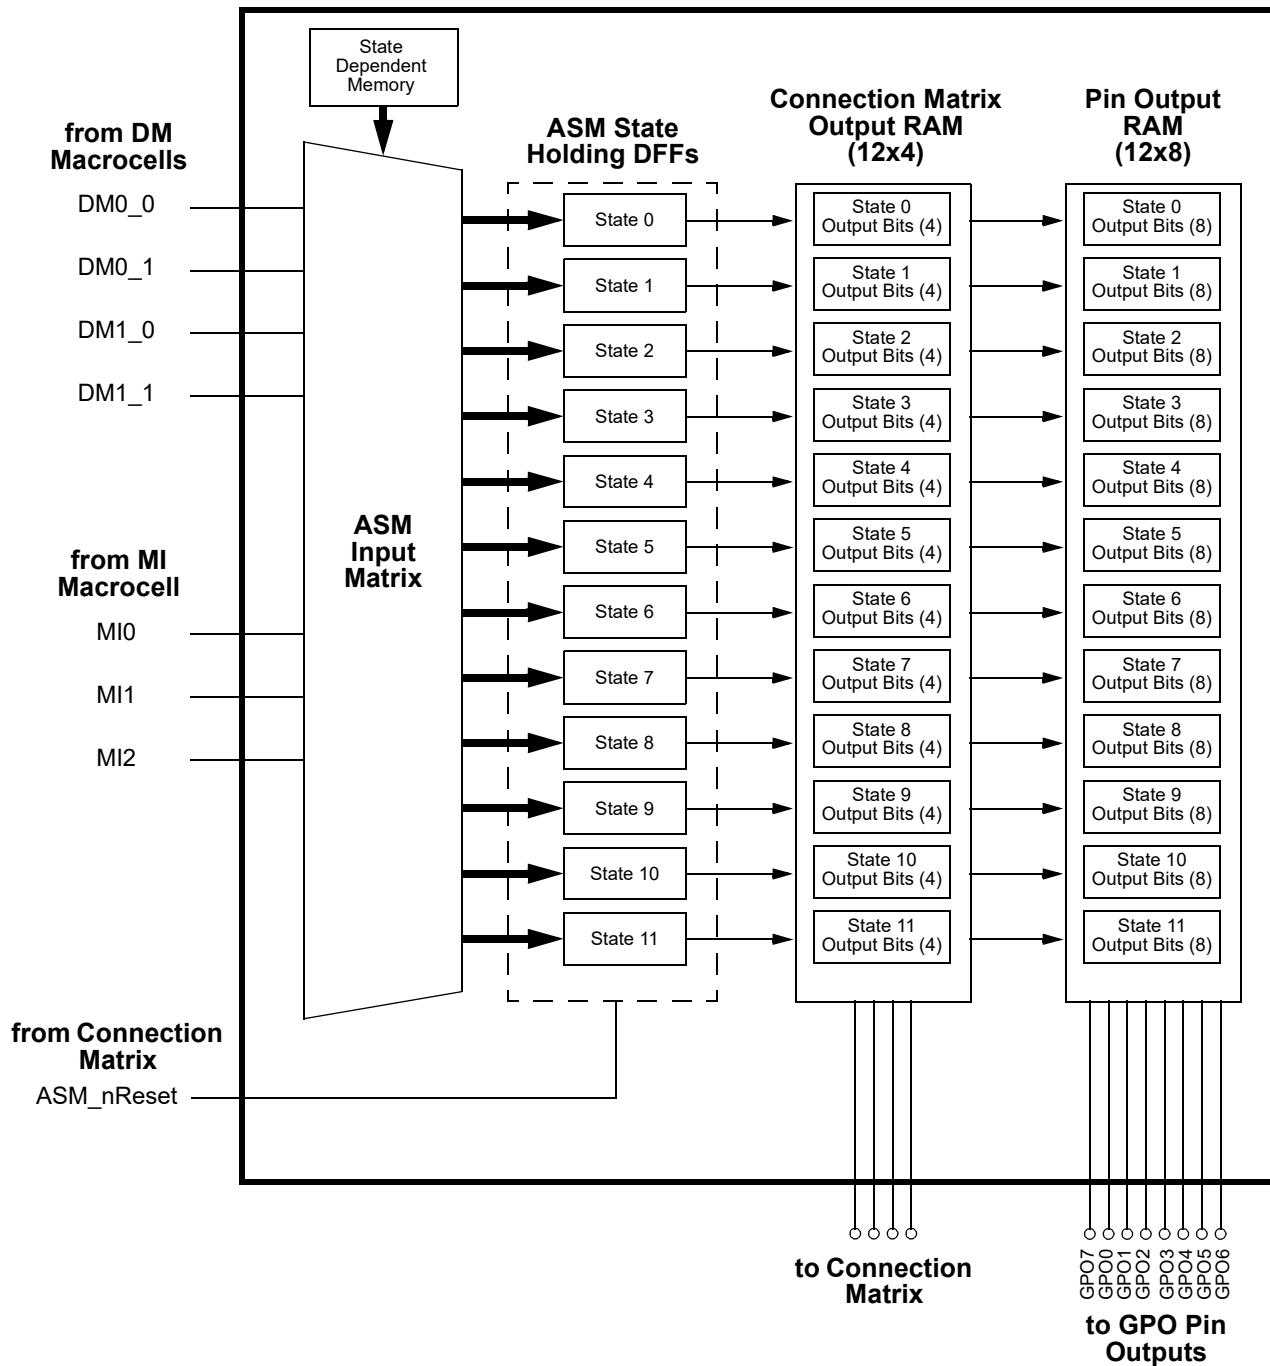

Figure 96: 12 State ASM Macrocell
The ASM macrocell has a total of 8 input signal lines, as shown in Figure 96, which come from a combination of three Matrix Interface (MI) macrocell outputs and DM macrocell outputs. Of these 8 inputs, 3 are user selectable inputs coming from the three Matrix Interface (MI) macrocells (one per macrocell) to the ASM macrocell. There are also 4 inputs that come from the DMx_X macrocells (one per macrocell). There is 1 ASM_nReset input that is for driving a state transition in the ASM macrocell to a user defined Initial/Reset state.
The GPAK Designer development tools support user designs for the ASM macrocell at both the physical level and logic level. Figure 96 is a representation of the user design at the logical level, and Figure 96 shows the physical resources inside the various macrocells in the ASM Subsystem. To best utilize this subsystem, the user must develop a logical representation of their desired state machine, as well as a physical mapping of the input and outputs required for the desired functionality.
The ASM macrocell has a total of 8 input signal lines, as shown in Figure 96, which come from a combination of Connection Matrix outputs and DM macrocell outputs.